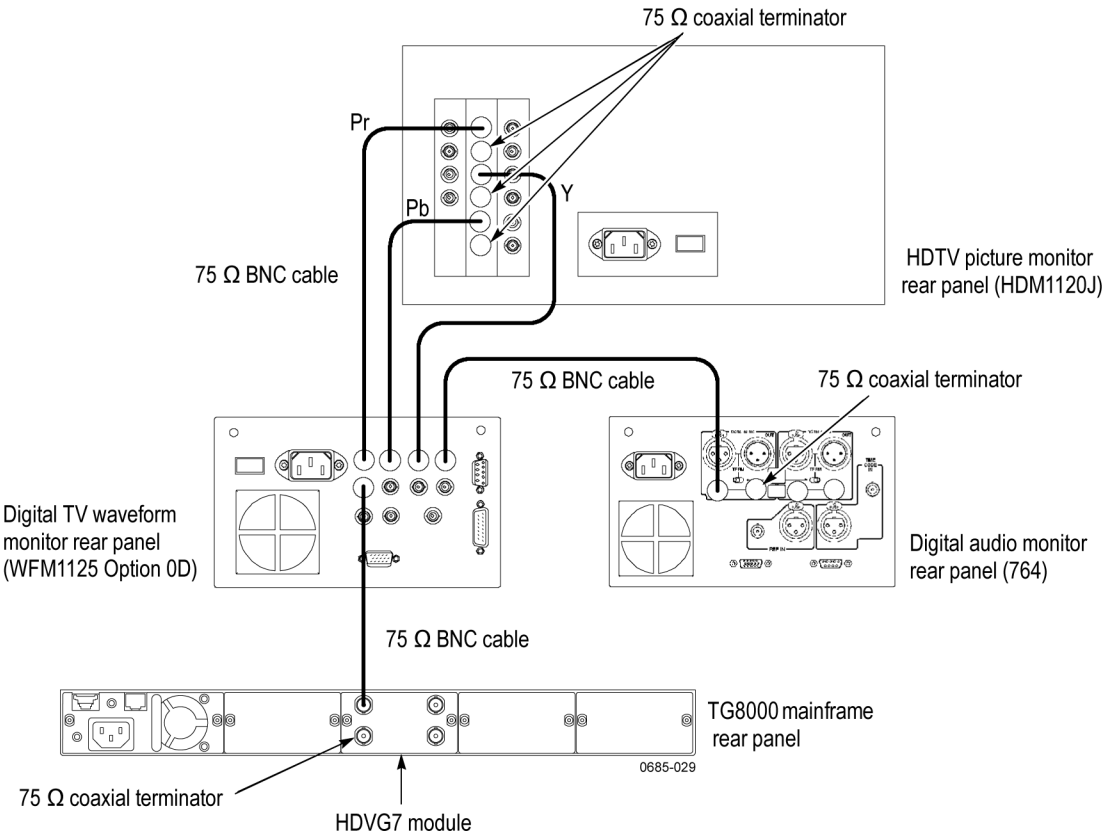

Figure 57: Setup for serial digital outputs test
1. Use the 75 Ω BNC cable to connect SIGNAL 1 connector on the HDVG7 Generator module to the CHA connector on the digital TV waveform monitor rear panel as shown in the following figure. (See Figure 57.)
3. Use the 75 Ω BNC cables to connect Pr, Pb, and Y ANALOG OUT connectors on the digital TV waveform monitor rear panel to INPUT A R/P_R, B/P_B, G/Y connectors, respectively, on the HDTV picture monitor rear panel as shown in the following figure. (See Figure 57.)
5. Use the 75 Ω BNC cable to connect AUDIO CHA connector on the digital TV waveform monitor rear panel to CH1-2 BNC connector on the digital audio monitor rear panel as shown in the following figure. (See Figure 57.)